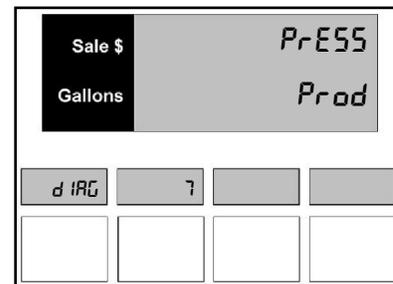

Figure D.7 - Audio Tone Test
1. Enter diagnostics and press the **7** button on the keypad and the **Enter** button. The display shown in *Figure D.7* appears.